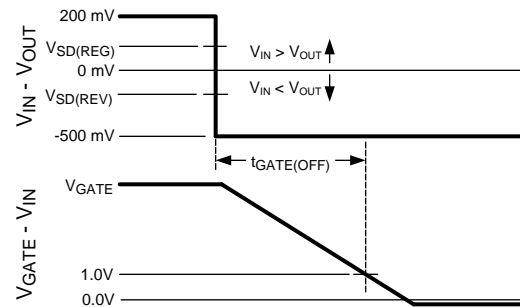

Figure 4. Gate Off Timing for Forward to Reverse Transition
(1) Measurement of V_{GS} voltage (i.e. $V_{GATE} - V_{IN}$) includes $1\text{ M}\Omega$ in parallel with C_{GATE} .
(2) Time from $V_{IN}-V_{OUT}$ voltage transition from 200mV to -500mV until GATE pin voltage falls to $V_{IN} + 1\text{V}$. See Figure 4.